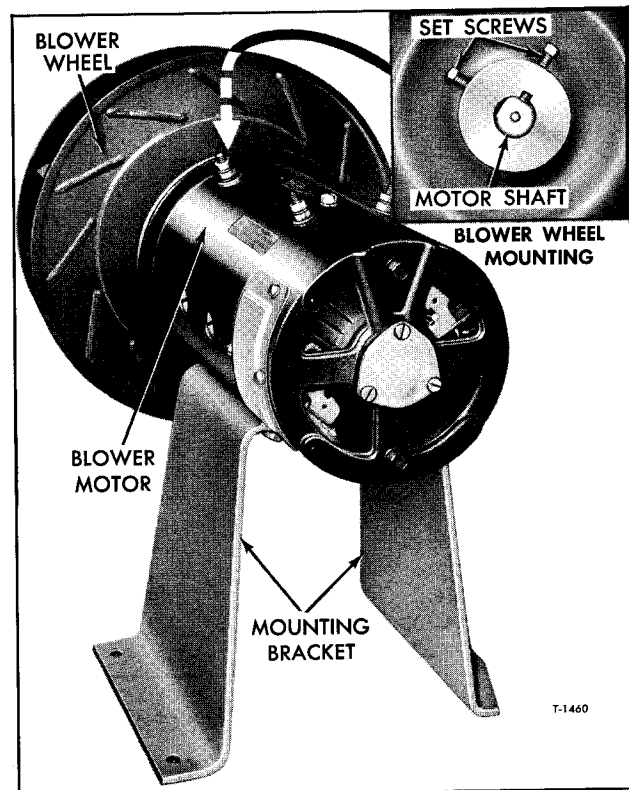

Figure 4—Blower Motor with Blower Wheel and Mounting Bracket Installed
A blower wheel is mounted on armature shaft of each motor. Each blower wheel is held to respective shaft by two set screws (fig. 4).
6. To remove the blower wheel from motor, loosen the two set screws (fig. 4) and slide the blower wheel off shaft.
7. To remove blower wheel from motor shaft, loosen the two set screws (fig. 4) at wheel hub, and slide wheel off motor shaft.